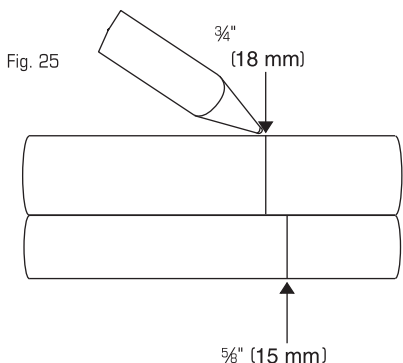

Fig. 25
4. **Lay** the red tube from the Pressure Regulator Assembly on the top of the diagram, and lay the blue tube on the bottom. Use a pen to **mark** them at the arrows (Fig. 25). (These ends will connect to the Carbon Water Treatment System).
- a) **Lay** the unmarked end of the blue tubing on the top of the diagram and **mark** a line at $\frac{3}{4}$ " (18 mm). (Fig. 25).
- b) **Lay** the tube from the cold water supply on the top of the diagram and **mark** a line at $\frac{3}{4}$ " (18mm) or at arrow (Fig. 25).